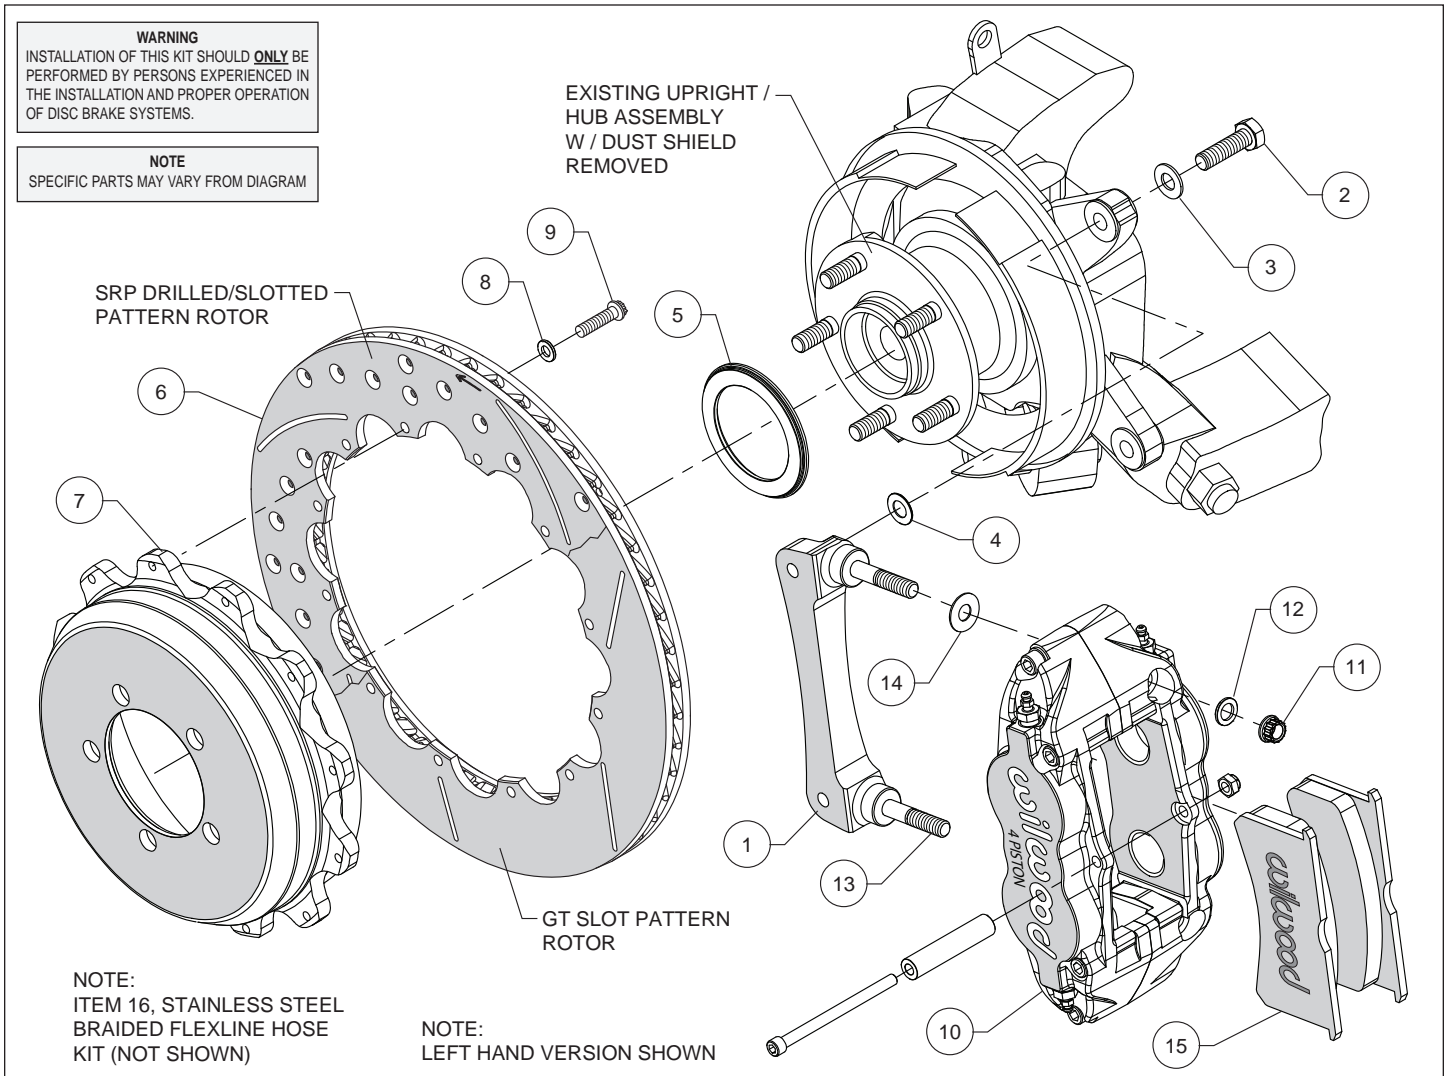
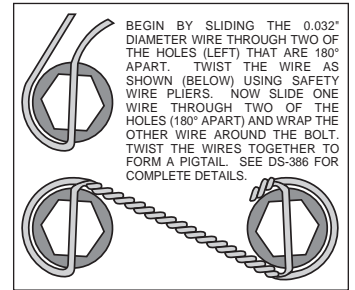

Figure 1. Typical Installation Configuration
Figure 3. Safety Wire Diagram
Assembly Instructions (numbers in parenthesis refer to the parts list and Figure 1 on the preceding pages):
- The caliper mount bracket (1) should initially be installed with clean, dry threads on the mounting bolts. Orient the bracket as shown in Figure 1 and Photo 2, and install using washers (3) and bolts (2). Initially place one shim (4) on each bolt between the bracket and upright, Figure 1. Temporarily tighten the mounting bolts. **NOTE:** *The bracket must fit squarely against the mount bosses on the upright.* Inspect for interference from casting irregularities, machining ridges, burrs, etc. Later, after the caliper alignment has been checked, the mount bolts will be secured using red *Loctite*[®] 271.
- Orient the rotor (6) and the hat (7) as shown in Figure 1 and Photo 3. Attach rotor to hat using bolts (9) and washers (8). Using an alternating sequence, apply red *Loctite*[®] 271 to the threads, and torque to 140 **in-lbs**. For an added measure of security, the bolts may be safety wired using standard 0.032 inch diameter stainless steel safety wire as shown in Figure 3. Please refer to Wilwood's data sheet DS-386 (available at www.wilwood.com/Pdf/DataSheets/ds386.pdf) for complete safety wire installation instructions.
- Lubricate the caliper mounting studs (13) with lightweight oil. Initially place one .035" thick shim (14) on each stud as shown in Figure 1 and Photo 5. Mount the caliper (10) onto the bracket (1) using lock nuts (11) and washers (12), Figure 1. Temporarily tighten the lock nuts and view the rotor through the top opening of the caliper. The rotor should be centered in the caliper, Photo 6. If not, adjust by adding or subtracting shims (4) between the bracket and the upright. Once the caliper alignment is correct, remove the bracket mounting bolts one at a time, apply red *Loctite*[®] 271 to the threads, and torque to 40 ft-lb.